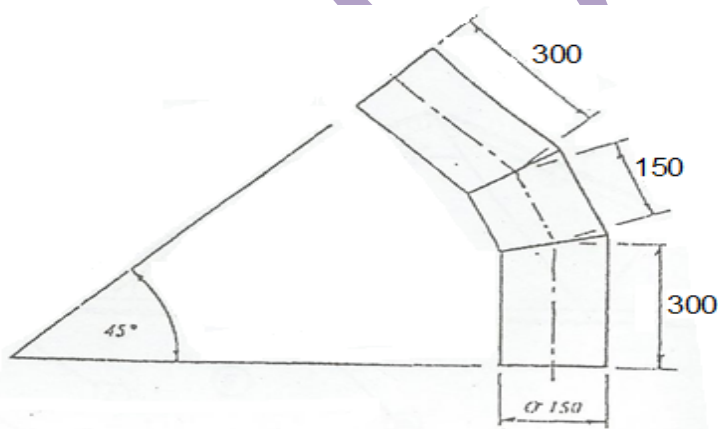

FIGURE 3
- 4.1 FIGURE 3, ADDENDUM A (attached), shows a pipe bend. Calculate the angle of cut and the length of segment required to construct the pipe bend. (6)